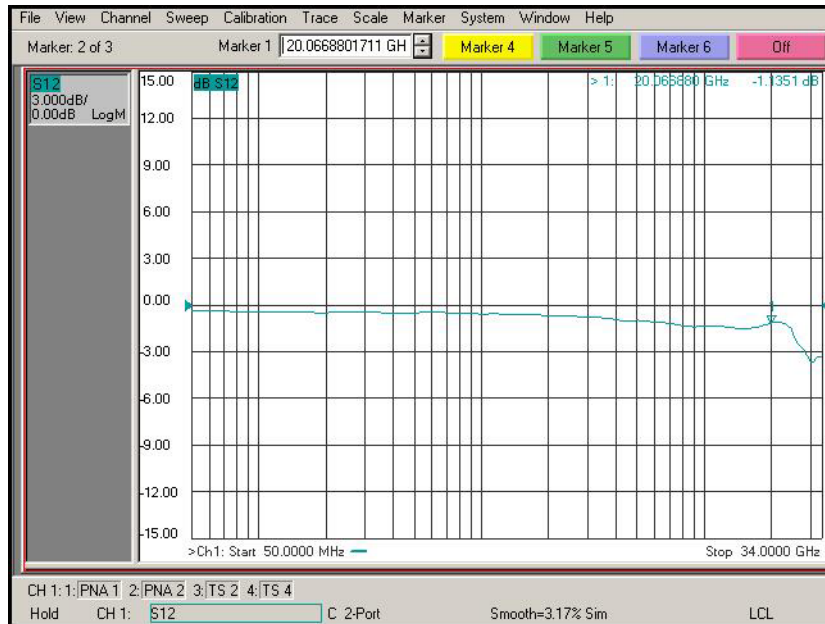

Figure 104 De-Embedded V_{in} Trace
- 10 Trigger the VNA to perform a single sweep. Press “Trigger” under Channel Setup, and then the green soft-key for “Single”. Display should look like **Figure 104** on page 145. If it looks noticeably different, the probe tip wires may not be making contact under the pincher.